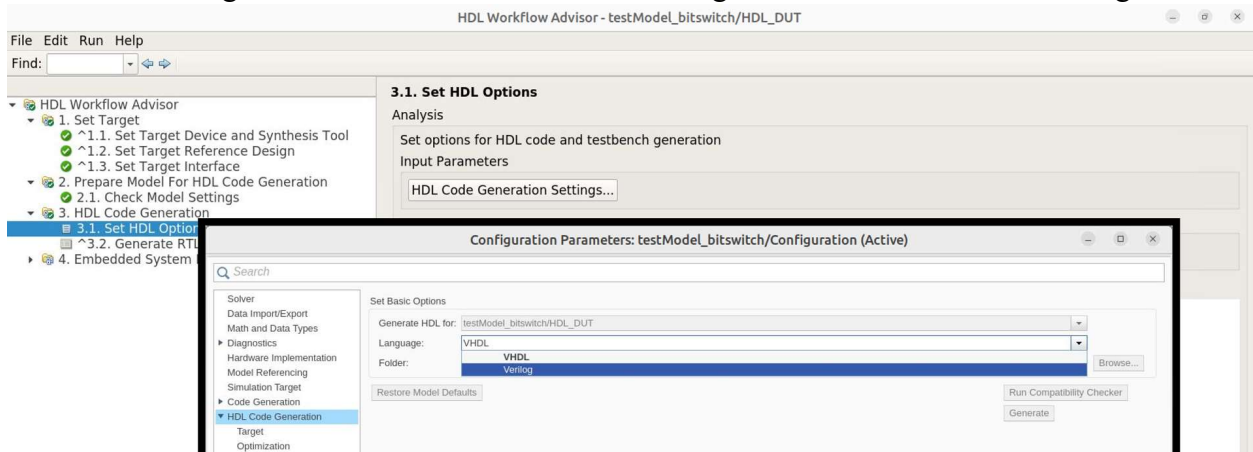

Figure 14. Set HDL Options
3.1 Select Verilog for the HDL Code Generation Settings, then run task as shown in Figure 14.